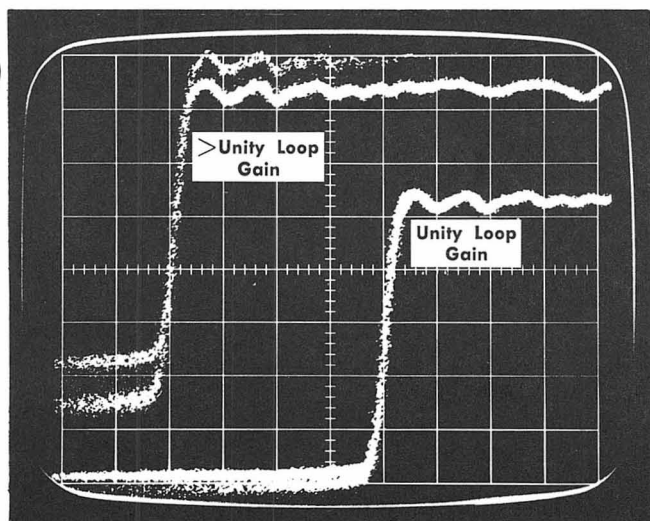

Fig. 5-10. Double exposure while adjusting R13, Transient Response control.
b. The display should be one cycle per division with the square wave top and bottom flat (parallel to a graticule line). Fig. 5-10 is a double exposure showing a correct adjustment of the TRANSIENT RESPONSE control, and an incorrect adjustment. The tilt of the square wave can be either rising or falling when R13 is not correctly adjusted.